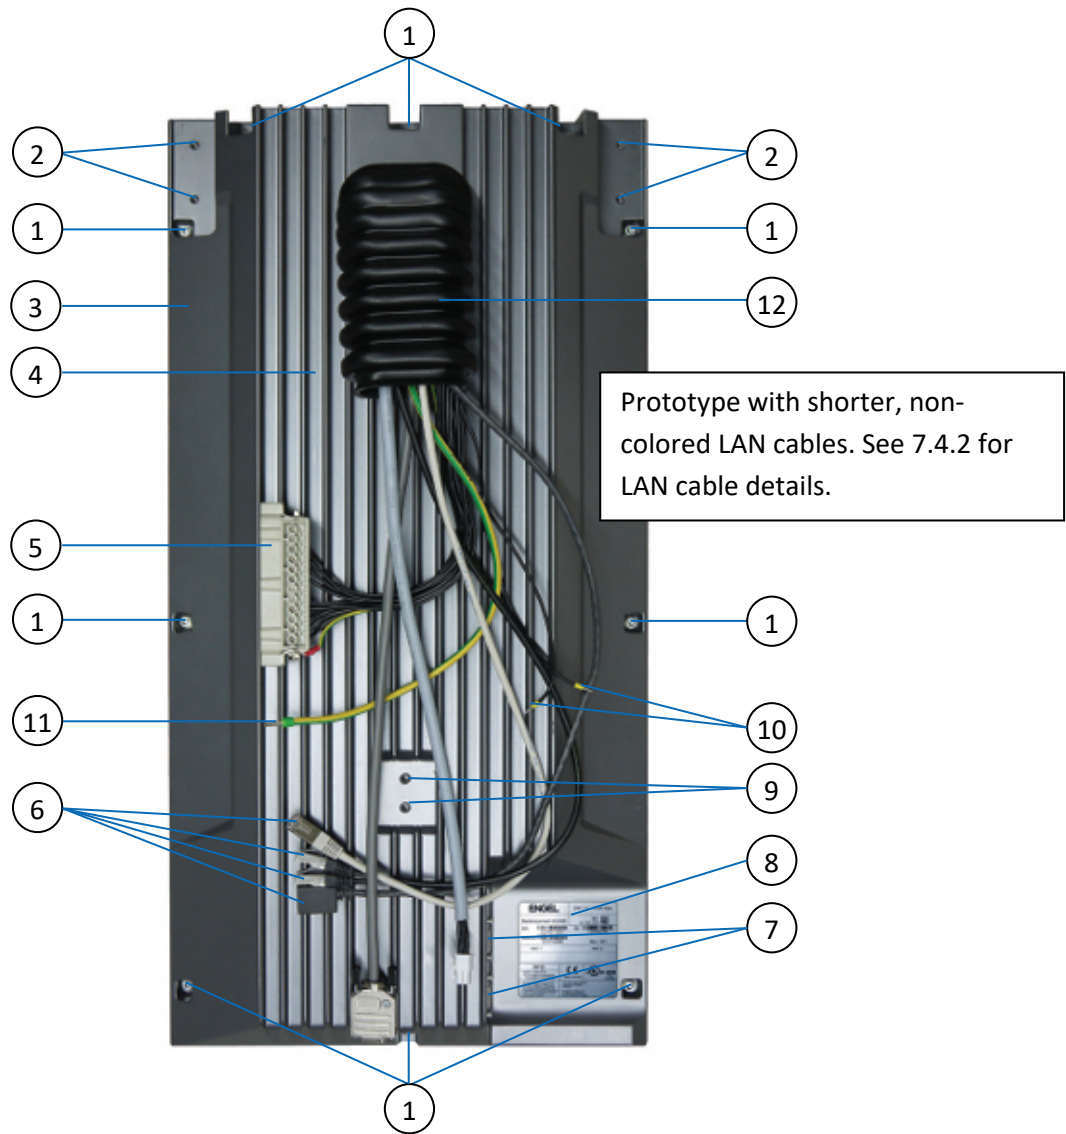

Fig. 17: Rear side of the CC300 operator panel
The nameplate is located at the bottom rear side of the cabinet (see also Fig. 17, Pos. 8).
Legend for Fig. 17 :
All outgoing cables of the CC300 operator panel are routed through the cable gland at the rear side of the cabinet (see also Fig. 17, Pos. 12). Except for the cables for the linear actuator and the grounding cable, all single wires are combined in the 24-pole Harting connector (Fig. 18). For the pin assignment of the Harting connector, refer to chapter 11.1.1 “Harting Connector”.
The two single cables marked “1” and “2” (see Fig. 17, Pos. 10) will be connected to the linear actuator of the tilting mechanism. The maximum allowed connection power is 44 W.
The CC300 operator panel must be grounded by establishing a **large-area contact** between the grounding cable (see also Fig. 17, Pos. 11) and an appropriate grounding contact. The cross section of the grounding cable is 6 mm2.
2. Remove the 10x screws (M5 x 10) and the bonded seals that fix the rear cover to the front plate (see Fig. 17, Pos. 1).
4. Fix the rear cover to the front plate with the 10x screws (M5 x 10) and bonded seals removed in chapter 7.5.1 “Opening the CC300 Operator Panel”, step 2 (see Fig. 17, Pos. 1).